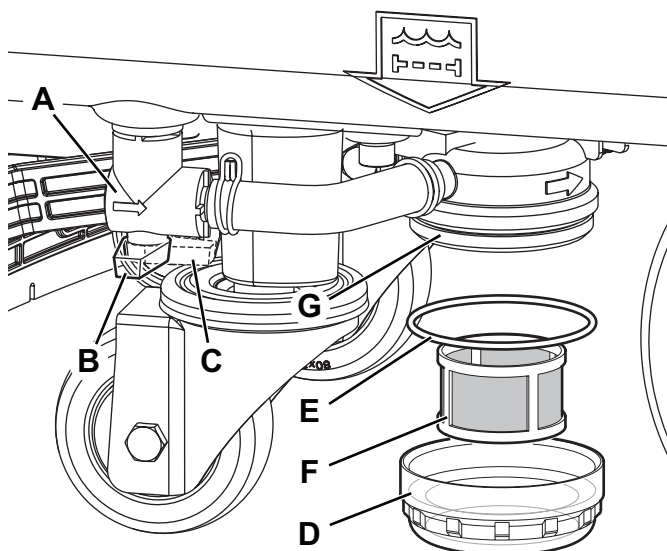

Figure 9
2. Ensure that the machine is off and the ignition key (41) has been removed (if equipped).
3. Close the detergent solution tank valve (A, Fig. 9). The valve is closed when it is in position (B) and it is open when it is in position (C).
4. Remove the transparent cover (D) and the gasket (E), then remove the filter strainer (F). Wash and rinse them, then refit them carefully onto the filter support (G).
5. Open the valve (A).